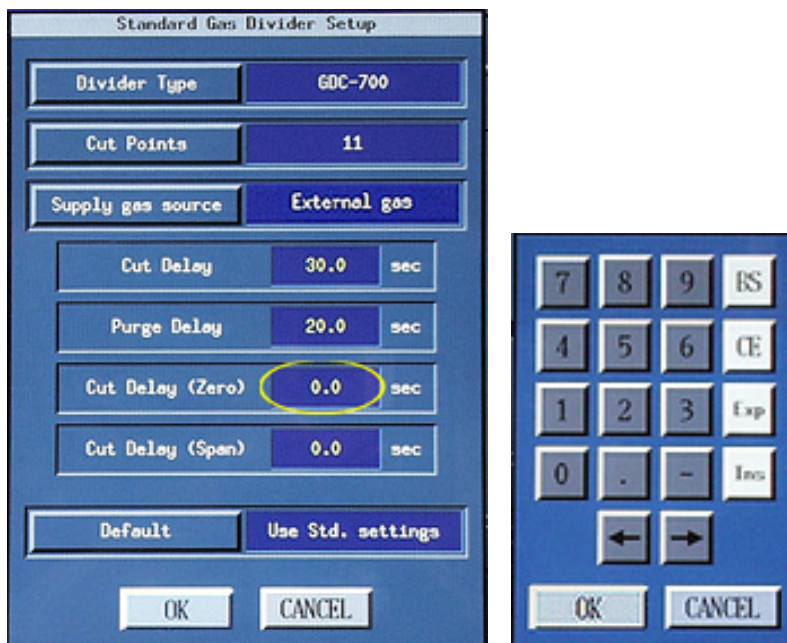

Figure 13
- 120 Verify that the field for “Cut Delay (Zero)” displays “0.0.” If it doesn’t, click in the field and use the on-screen keypad to enter the correct data. See the circle in Figure 13. On the key pad, click on “OK.”